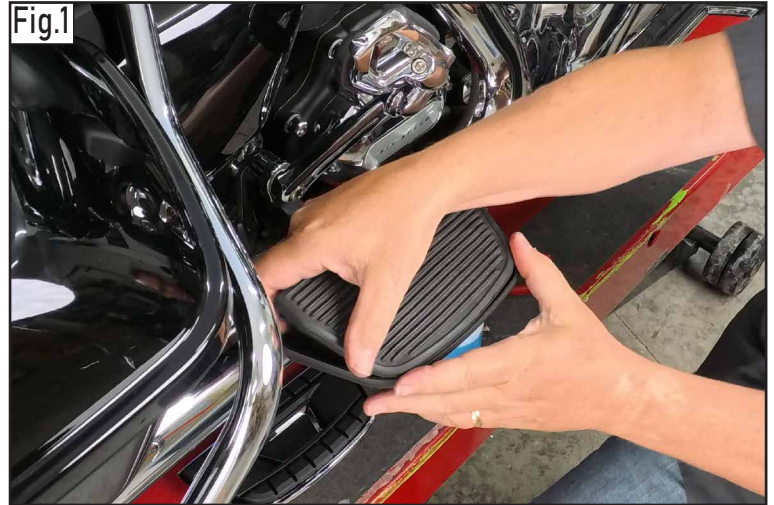

Fig.3
4. Note the pull darts at the outside of the insert in Fig. 3. Make sure when placing the insert into the frame that they both come through the holes at the outside.